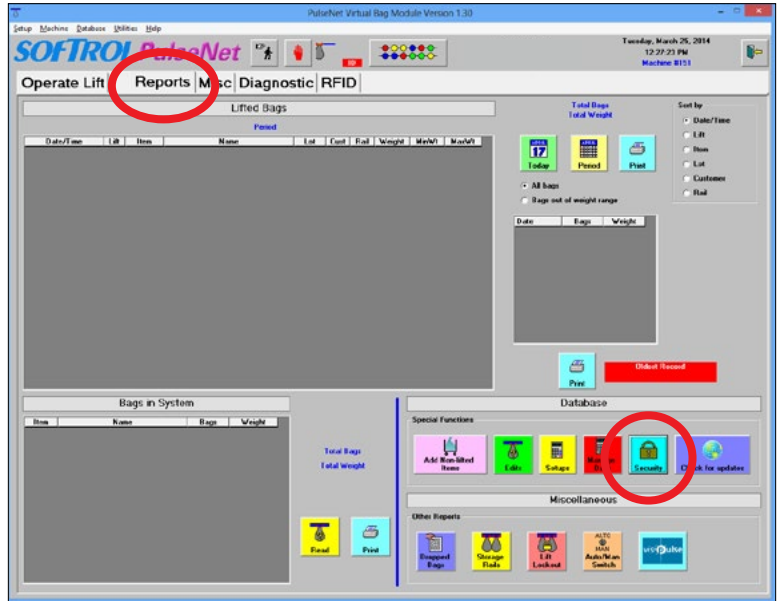

Figure 20. Open the Reports tab. Press Security.
1. Open the *Reports* tab (see Figure 20).